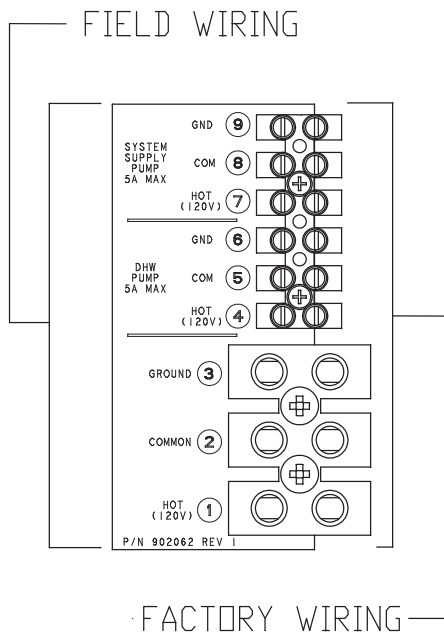
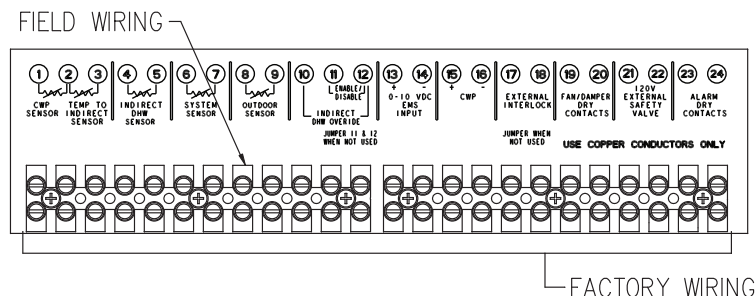

Fig. 20: Wiring Electrical Connections
Fig. 25: Low Voltage Field Wiring
All high voltage wiring connections to the MVB heater are made inside the rear wiring box as shown in Fig. 20. Power for indirect DHW pump not exceeding 5 amps should be taken from terminals 4 (Hot), 5 (Com), and 6 (Gnd). Power for system pump not exceeding 5 amps should be taken from terminals 7 (Hot), 8 (Com), and 9 (Gnd). Power for boiler pumps 3/4 HP and smaller should be taken from terminals 1 (Hot), 2 (Com), and 3 (Gnd), and must be routed through the pump contactor; 30A supply is required. Power for pumps larger than 3/4 HP must be a separate circuit wired through the pump contactor. Power to the MVB heater should be connected to terminals 1, 2, and 3 as noted in Fig. 20. All low voltage wiring, including sensors, interlocks, enable/disable, and various options are wired into terminals 1–24 on the front wiring panel as noted in Fig. 25.
Connect the Enable/Disable wiring to the field wiring terminal (shown in Fig. 25). Alternately, any dry contact
2. If using an Outdoor Sensor (option B-32), connect the sensor wires to the terminals marked OUTDOOR SENSOR (see Fig. 25). Caution should be used to ensure neither of these terminals becomes connected to ground.
4. Connect an Energy Management system or other auxiliary control signal to the terminals marked 0-10V (+ /-) on the field wiring terminals (see Fig. 25). Caution should be used to ensure that the +0-10V connection does not create a short to ground.
3. Connect the system supply sensor to terminals 6 and 7 on the field wiring strip located on the Master PIM™ (See Fig. 25).
4. Connect the Outdoor sensor (if used) to terminals 8 and 9 on the field wiring strip located on the Master boiler (See Fig. 25).
5. Connect the Enable/Disable wiring to terminals 11 and 12 on the field wiring strip located on the Master boiler (See Fig. 25). This connection must be provided through dry contacts closure.
An alarm annunciator or light may be connected to the alarm contacts on the field wiring terminals. The Alarm Contacts are 3A rated dry contacts on a normally-open relay that close during fault or lockout conditions, and the maximum voltage across the contacts is 30 VAC or 30 VDC. See the Field Wiring as shown in Fig. 25.